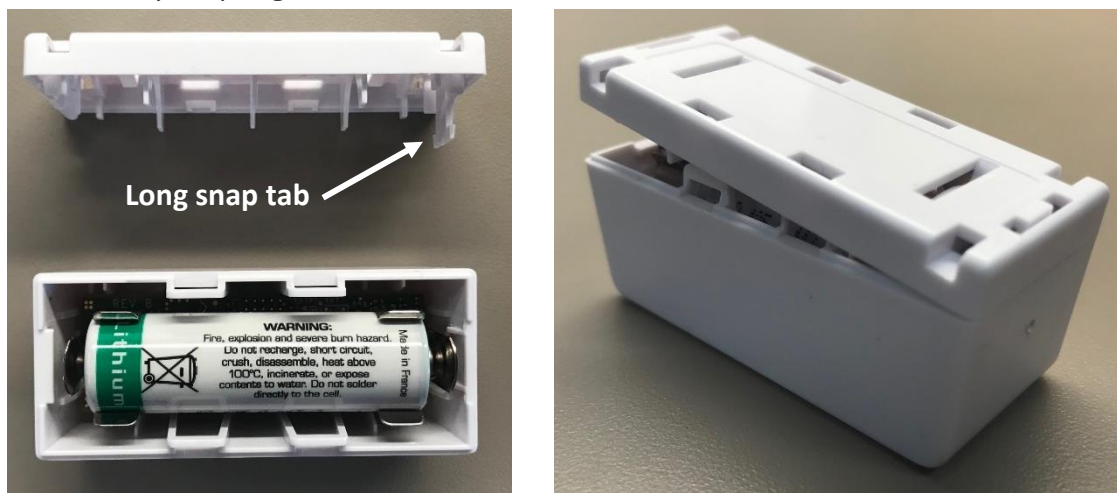

Figure 2-5: Left: Location of the Long Snap Tab. Right: Inserting the Long Snap Tab Side First to Reattach Enclosure Bottom.
2. Once the Tracker is powered and tries to join (see Section 3.3 for LED behavior), replace the bottom enclosure piece by inserting the side with the long snap tab first, as shown in Figure 2-5. Push the other side of the bottom enclosure piece in until both the top and bottom fully snap together.